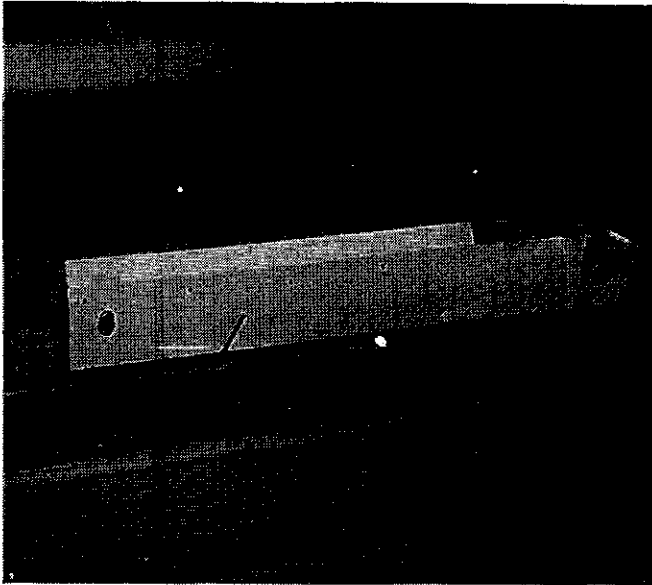

FIG. 23.
4. Lift and remove under table sawguard "A", FIG.23.
8. Replace under table sawguard "A", FIG.23,